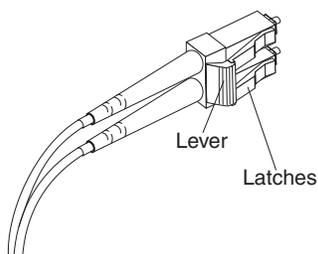

Figure 32. LC-LC Fibre Channel cable lever and latches
1. On the end of the cable that connects into the LC connector end of the LC-SC cable adapter, press down and hold the lever to release the latches. Figure 32 shows the location of the lever and latches.